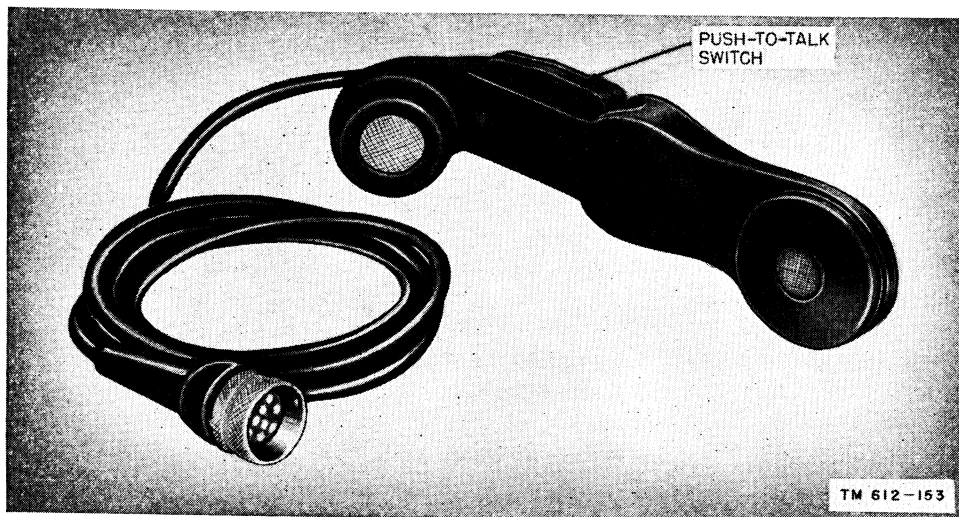

Figure 8. Handset H-33B/PT.
e. **HANDSET H-33B/PT**. The handset (fig. 8) consists of a microphone for transmitting, an earphone for receiving signals, and a push-to-talk switch. The handset is connected through a cable and 10-contact plug to AUDIO jack J8 on the control panel of the radio set.